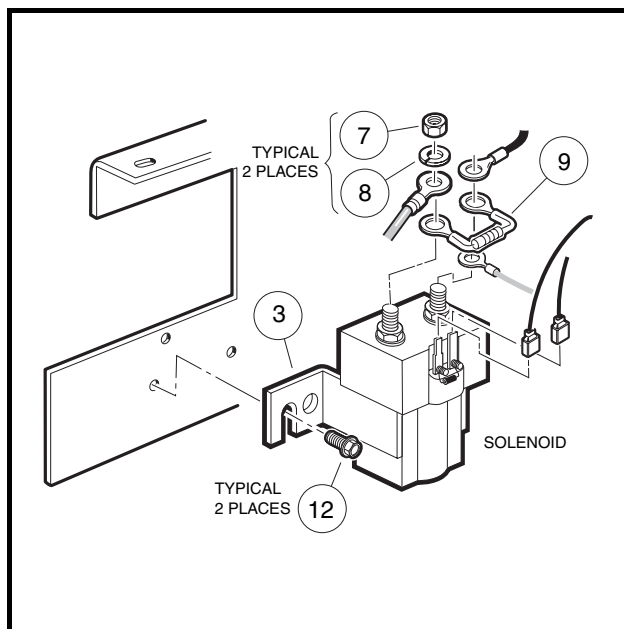

Figure 13-5 Solenoid
3. Disconnect all wires from the solenoid (3) (**Figure 13-5, Page 13-7**).
4. Loosen, but do not remove, the two screws (12) that hold the solenoid (3) to the component mounting plate.
5. Lift the solenoid (3) up and off of the component mounting plate.
1. Mount solenoid (3) onto component mounting plate with screws (12) (**Figure 13-5, Page 13-7**).
2. Tighten screws (12) to 60 in-lb (6.8 N·m).
3. Using the wiring diagram, install the wires, resistor (9), washers (8), and nuts (7) onto the large mounting posts. Tighten nuts to 77 in-lb (8.7 N·m). **See Wiring Diagrams, Section 11, Page 11-2.**
4. Install the blue/white and light blue wires onto the small terminals of the solenoid (**Figure 13-5, Page 13-7**).